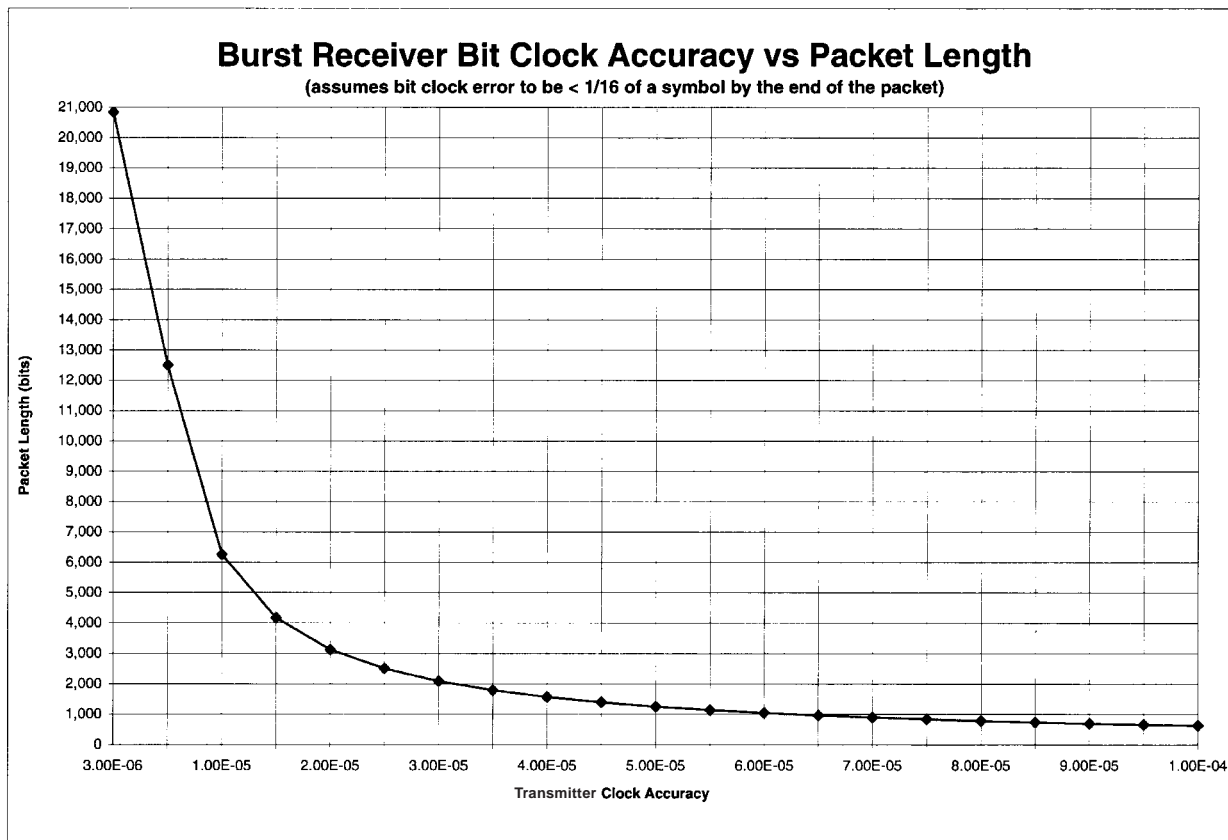

Figure 2
*Long burst lengths may require precision Tx bit clk or locked Tx & Rx clocks (See Fig. 2).
Figure 2 shows the transmit bit clock accuracy requirements vs. packet length. This effect can be eliminated by frequency locking the receiver's time base to the transmitter's time base.